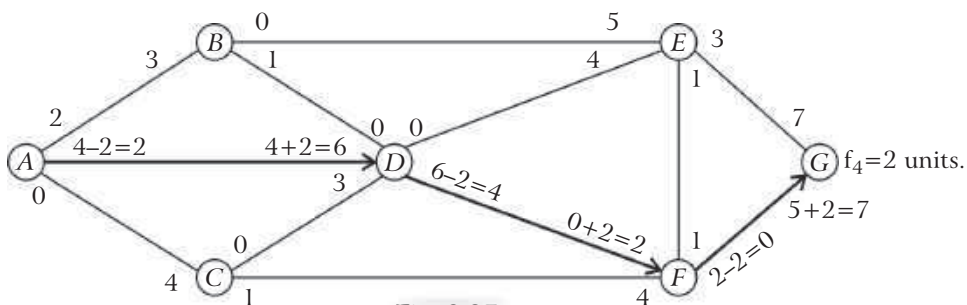

Fig. 8.37
Step 6: Consider the route $A - D - F - G$ (see fig. 8.37). Then proceeding as in steps 2 and 3, we get the following network (residue graph) fig. 8.37 and max. flow in this route $f_4 = 2$ units.